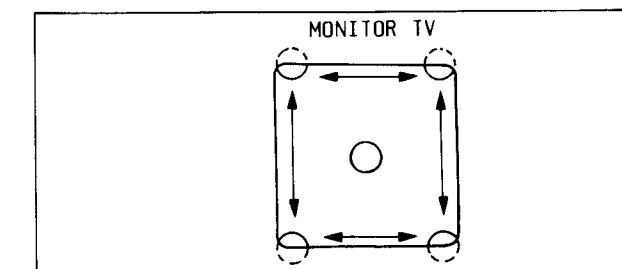

Fig. C7-2
- (2) Set the High Speed Shutter SW to "ON" position.
- (3) Connect a jumper wire between TP10 and TP11 to fully open the iris.
- (4) Adjust the Blooming Control (VR201) so that the monitored picture does not contain Blooming.
- (5) High Speed Shutter "ON" and "OFF" both to confirm that the monitored picture does not contain the Blooming even if the camera is zoomed in as shown in Fig. C7-2.